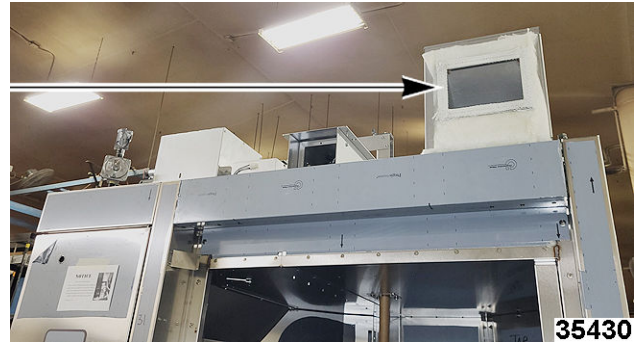

Fig. 110
- D. Apply high temp red silicone around face of overpressure duct (Fig. 110).